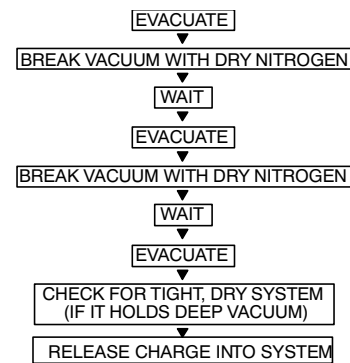

Fig. 48 —Triple Evacuation Method
The triple evacuation method should be used when vacuum pump is not capable of pumping down to 500 microns and system does not contain any liquid water. Refer to Fig. 48 and proceed as follows:
5. Repeat this procedure as indicated in Fig. 48. The system should now be free of any contaminants and water vapor.